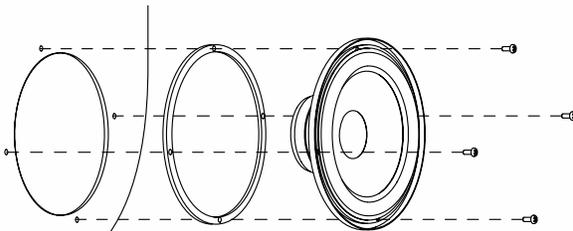

Figure 1
1. Many vehicles already have factory locations (Figure 1) to house the "DROP IN" feature of the SX Component speakers. If no existing locations are available or are not used, check the desired location for adequate cutout area and any depth obstructions. Make sure to allow sufficient clearance for window tracks, structural braces, trunk lid springs, etc.
Phoenix Gold has provided a foam mounting gasket. When installing your new component speakers in a factory location make sure to use the foam mounting gasket as shown in figure 1. For reverse mounted speakers place the foam gasket in front of the speaker. This will ensure an air tight seal for your SX speakers.
Phoenix Gold a fourni un joint statique de montage en mousse. Lors de l'installation de vos nouveaux système de composantes dans une usine, assurez-vous d'utiliser les joints statiques de montage en mousse comme le montre la figure 1. Pour les haut-parleurs montés à l'envers, placez le joint en mousse en face du haut-parleur. Ceci assurera un joint étanche à l'air pour vos haut-parleurs SX.